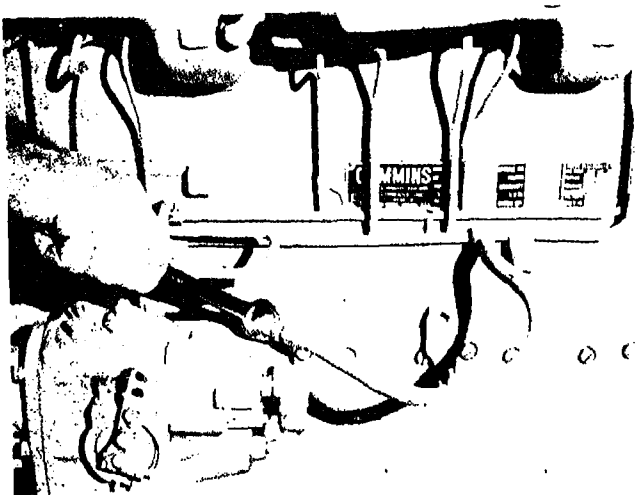

Fig. 0-10. Removing fuel pump coolant line
1. Remove pump by-pass or fuel coolant line (if used), Fig. 0-10.